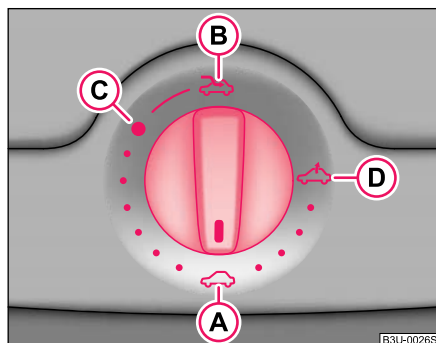

Fig. 28 Control dial for the power sliding/tilting roof
The sliding/tilting roof is operated by means of the control dial ⇒ fig. 28 and only functions when the ignition is switched on. The control dial has a number of fixed positions.
- Turn the switch to position  ⇒ fig. 28.
- Turn the switch to position **(A)** ⇒ page 49, fig. 28.
The sliding/tilting roof is equipped with an overload protection system. The sliding/tilting roof stops and returns when it cannot be closed because there is something in the way (e.g. ice). You can close the sliding/tilting roof completely without overload protection by pressing the switch to the **(A)** position ⇒ page 49, fig. 28 at the front for as long as it takes for the sliding/tilting roof to shut completely ⇒ ⚠.
If the sliding/tilting roof has been closed through taking emergency measures press the control dial at the front on the edge of the grip for more than 3 seconds with the switch in the **(A)** ⇒ page 49, fig. 28 position and the ignition switched on. The sliding/tilting roof will now close properly. ■